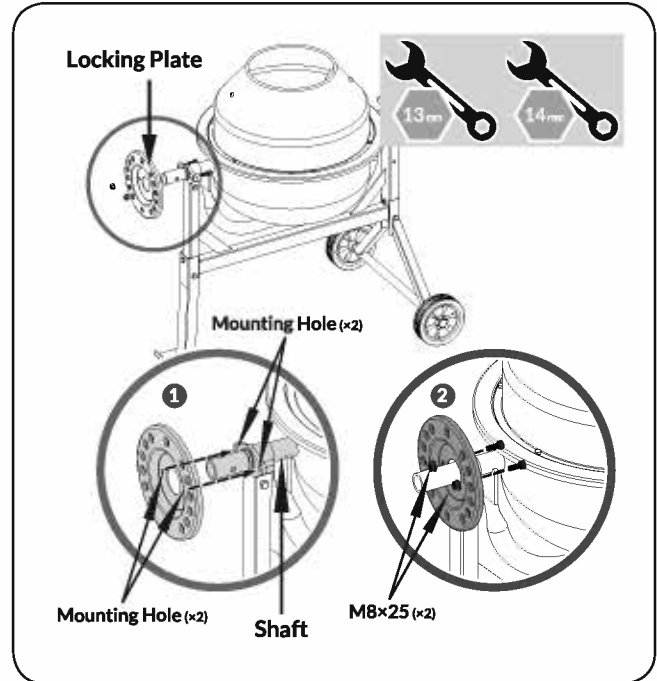

Figure 5a
1. Slide the locking plate over the large diameter shaft (at the "leg side" of the frame) with the rim facing inwards as shown. Insert two M8×25 bolts into the mounting holes, and secure each with a nut and flat washer. (See **Figure 5a**)